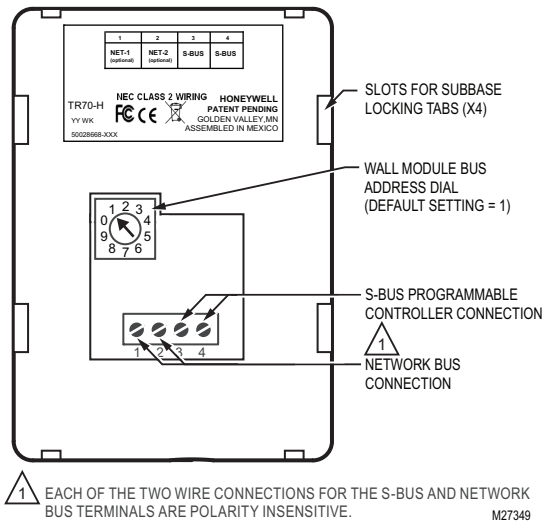

Fig. 6. Terminal connections, Wall Module bus address dial, and TR70-H address dial (rear view of LCD wall module).
The network bus and S-BUS terminals (see Fig. 6 on page 4) are insensitive to polarity, minimizing installation errors due to mis-wiring.
Attach the wires from the programmable controller and network to the appropriate wall module terminals, as indicated in Fig. 6 on page 4.
Wire the terminal block shown in Fig. 6 as follows:
3. Review and verify the terminal connection wiring illustrated in Fig. 6.